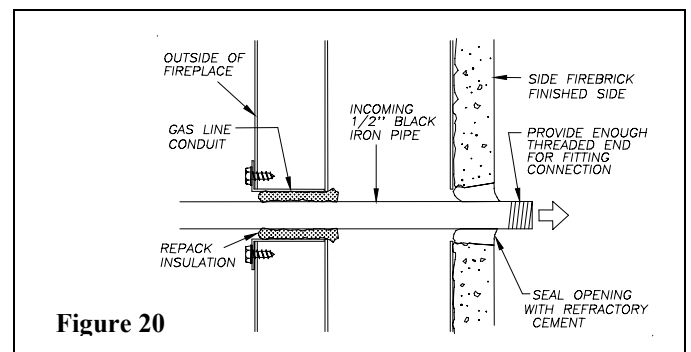

Figure 20
STEP 3: Run a ½ inch black iron gas line into the fireplace through the gas line conduit sleeve (if using a raised platform, add height). Provide sufficient gas line into fireplace chamber for fitting connection (see figure 20).